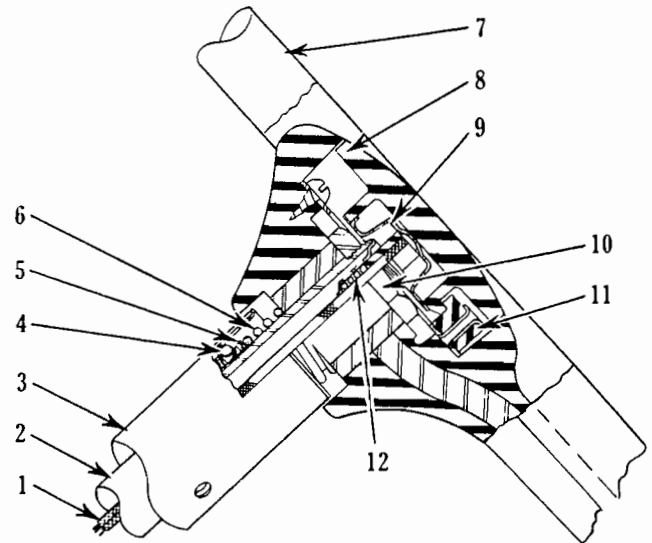

Fig. 6, Models TA-12, T-14, TA-14, TA-54
- (f) When proper adjustment has been made, tighten lock nut (9) and then give gear a final test.
5. TO REMOVE STEERING WHEEL (Figs. 6 and 7).
- (b) Remove horn button (8) by pressing down and turning to right or left with
LEGEND for Figs. 6 and 7.